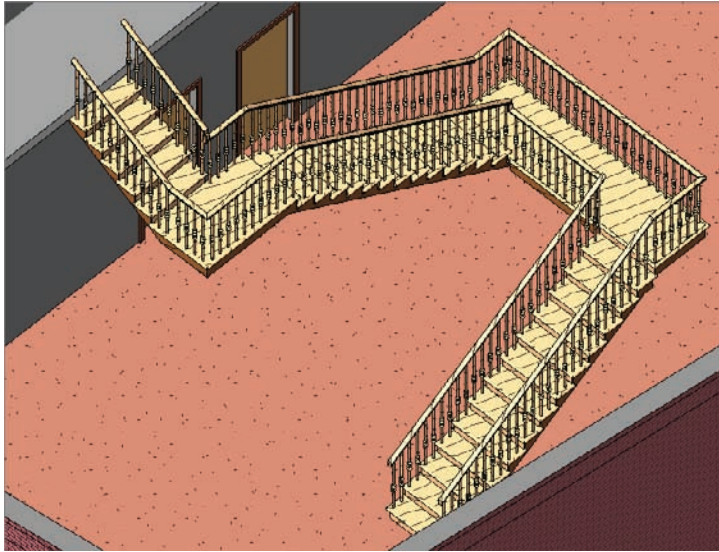

FIGURE 10.69 The stairs as shown in 3D. Notice the nice bull nose and the railings.
10. Go to (or make) a 3D view to check out the stairs. They should resemble Figure 10.69.